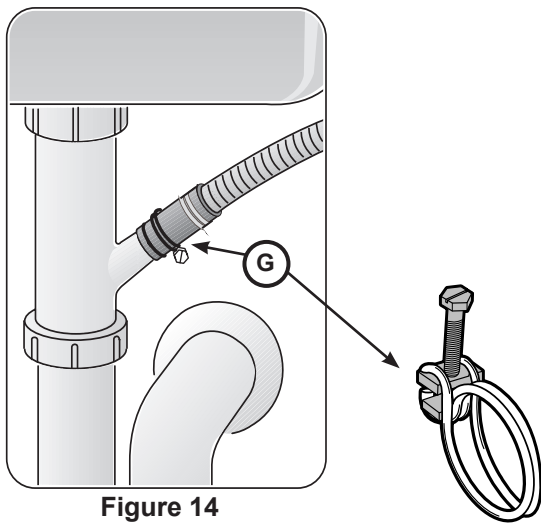

Figure 14
4. Use the clamp provided to attach the Rubber Drain Hose Adaptor to the house plumbing as shown in **Figure 14**.